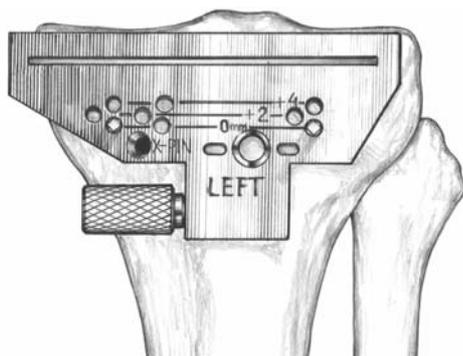

Figure 44
- ▶ If desired, 2mm or 4mm of additional bone may be resected by repositioning the guide over the pins through the +2 or +4 holes respectively (**Figure 44**).